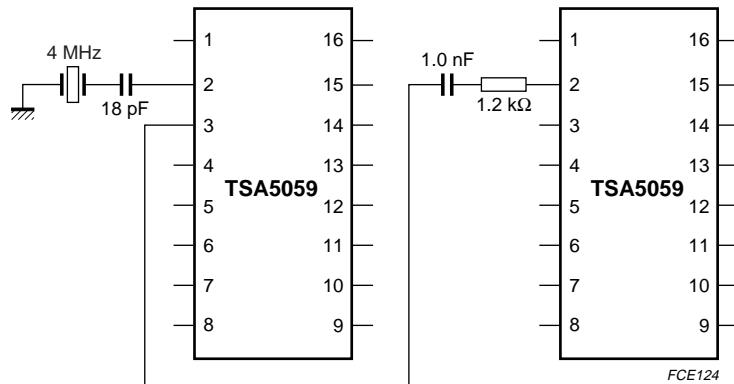

Fig.5 Application for using one crystal with two TSA5059s.
3. To drive pin XTAL from the pin XT/COMP of another TSA5059, couple the signal through a capacitor of  $1 \text{ nF}$  (to remove the DC level), in series with an  $1.2 \text{ k}\Omega$  resistor, see Fig.5.
It is also possible to feed pin XTAL with an external signal between 2 and 20 MHz, coming from an external oscillator or from the pin XT/COMP of another TSA5059, when more than one synthesizer is present in the same application. Then the application given in Fig.5 should be used.